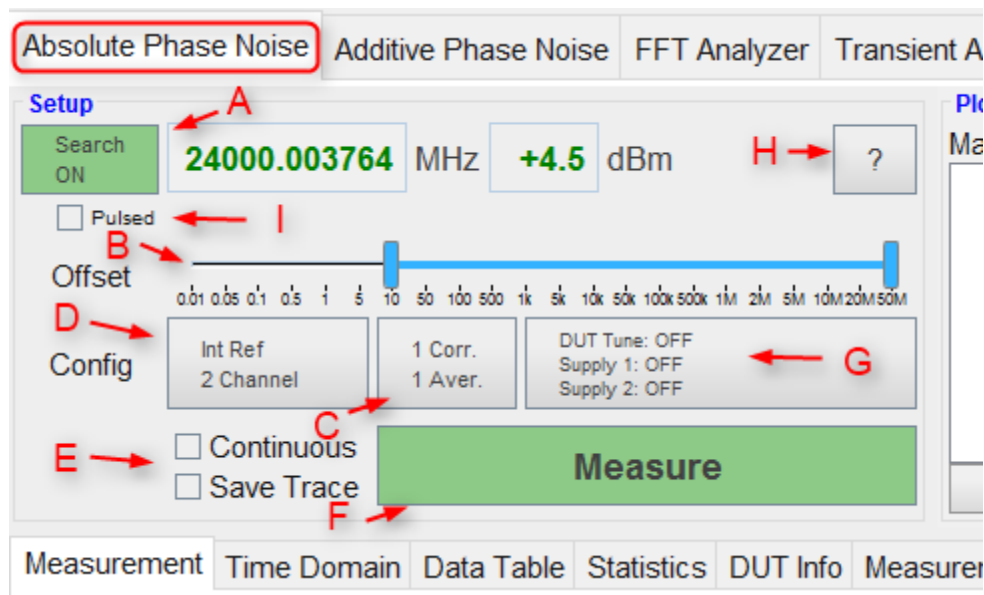

Figure 18: Setup section of Absolute Phase Noise tab
- A) Enable internal frequency counter and power meter** (see Figure 18): If the search button is enabled, the counter and power meter are running, and constantly updating the detected DUT's frequency and power. Disabling allows manual entry of the DUT frequency, and internal counters and power detector are in the off state. By default, the auto-detection is on, and once a valid signal is detected, the measure button turns green and is enabled.